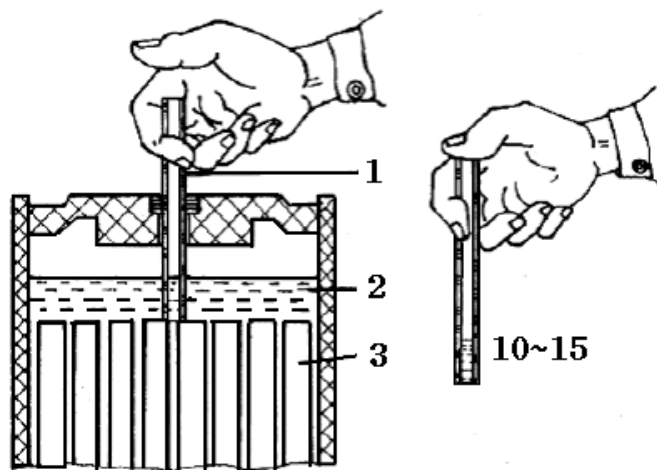

Fig 4-4. Checking the electrolyte level
- (1) In routine use the dust and dirt on the battery surface should be cleaned periodically and keep the terminals and all contacts in good connecting condition.
- (2) Keep the air hole on the plastic cover unimpeded so as to protect the battery from trouble because of too much gas in the battery.
- (3) Check the height of electrolyte level periodically (Fig.4-4). The height of electrolyte level is within 10~15mm in the measuring tube. If the electrolyte is below that level, add distilled water. In case electrolyte overflows under unusual conditions, the electrolyte mixed with reference to local temperature can be added.